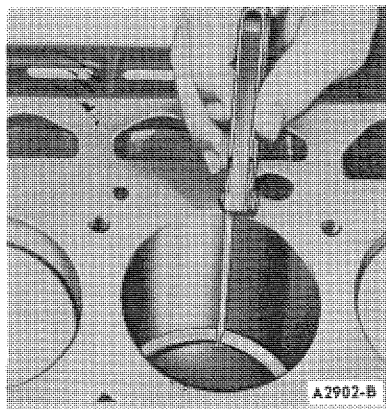

FIG. 33 Checking Piston Ring Gap
5. Measure the gap between the ends of the ring with a feeler gauge (Figure 33). If the ring gap is less or greater than the specified limits, try another ring set.